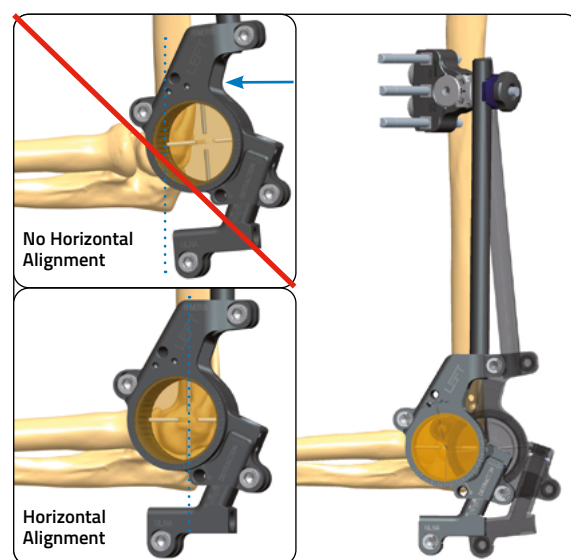

Fig. 8
- Move the rod antero-posteriorly to achieve horizontal alignment (**Fig. 8**).